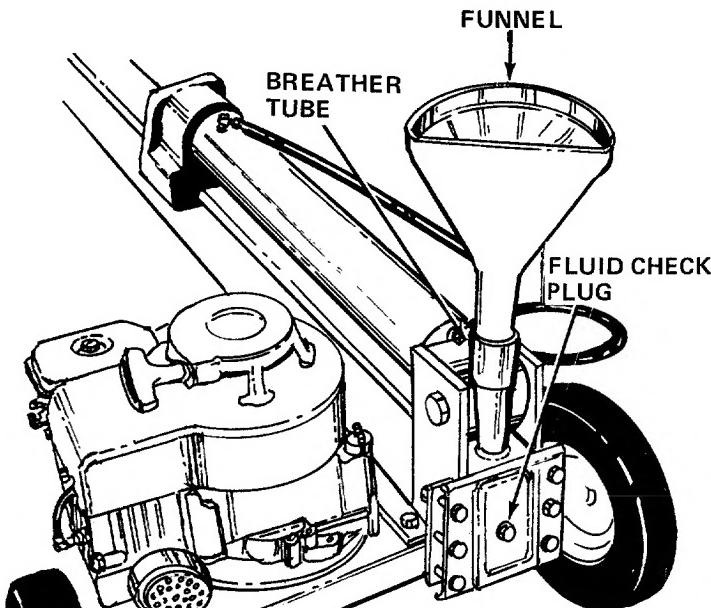

FIGURE 9
- Remove the fluid check plug from the back of the log splitter. See figure 9. If fluid starts to come out of the hole, fluid level is correct. If it does not, replace the check plug loosely, pull the cap off the breather tube, and add Dexron II automatic transmission fluid until fluid starts out of the hole when the plug is removed.